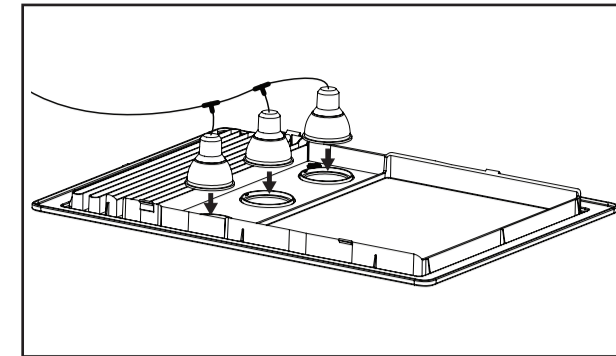

Fig 13.
5. Fitting the new LED light assembly into the wiring socket. Tighten the knurled nut on the wiring harness to ensure the lead is securely connected. Insert all the LEDs into the fascia by locating under the tab on one side and pressing firmly to locate the tab on the other side. (Fig 13).